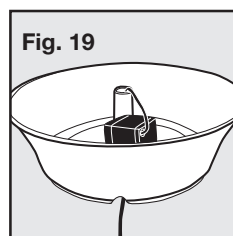

Fig. 19
2. Press down on the pump to engage the suction cups. Once the pump is securely in place, feed the in-line plug of the electrical power cord over and through the raised post and out the notch in the base of the bowl (**Fig. 19**).